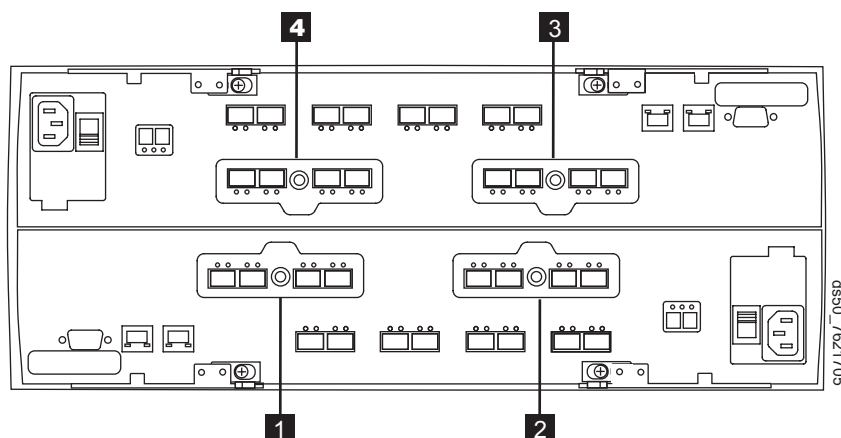

Figure 126. Host interface card slots on controllers A and B
15. Locate the host interface card that you want to replace. See Figure 126 on page 203, and Table 57 on page 203, which describes the numbered locations identified in Figure 126 on page 203.